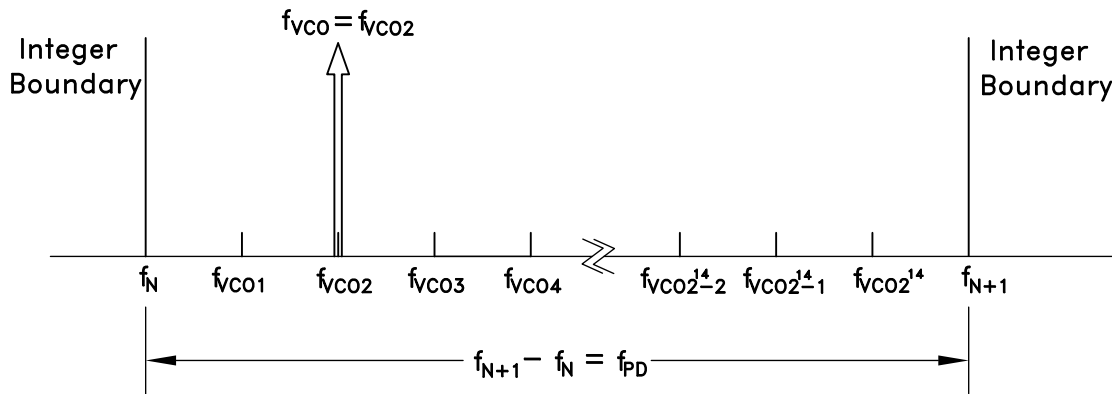

Figure 44. Exact Frequency Tuning
and  $f_{VCOk}$  are the channel step frequencies where  $0 < k < 2^{24}-1$ , As shown in Figure 44.
Some fractional PLLs are able to achieve this by adjusting (shortening) the length of the Phase Accumulator (the denominator or the modulus of the Delta-Sigma modulator) so that the Delta-Sigma modulator phase accumulator repeats at an exact period related to the interval frequency ( $f_{VCOk} - f_{VCO(k-1)}$ ) in Figure 44. Consequently, the shortened accumulator results in more frequent repeating patterns and as a result often leads to spurious emissions at multiples of the repeating pattern period, or at harmonic frequencies of  $f_{VCOk} - f_{VCO(k-1)}$ . For example, in some applications, these intervals might represent the spacing between radio channels, and the spurious would occur at multiples of the channel spacing.
If it is desirable to have multiple, equally spaced, exact frequency channels that fall within the same interval (ie.  $f_N \leq f_{VCOk} < f_{N+1}$ ) where  $f_{VCOk}$  is shown in Figure 44 and  $1 \leq k \leq 2^{14}$ , it is possible to maintain the same integer-N (Reg\\_03h) and exact frequency register (Reg\\_0Ch) settings and only update the fractional register (Reg\\_04h) setting. The Exact Frequency Channel Mode is possible if \(EQ 17\) is satisfied for at least two equally spaced adjacent frequency channels, i.e. the channel step size.
To configure the HMC834LP6GE for Exact Frequency Channel Mode, initially and only at the beginning, integer (Reg\\_03h) and exact frequency (Reg\\_0Ch) registers need to be programmed for the smallest  $f_{VCO}$  frequency ( $f_{VCO1}$  in Figure 44), as follows:
1. Calculate and program the integer register setting Reg\\_03h =  $N_{INT} = \text{floor}(f_{VCO1}/f_{PD})$ , where  $f_{VCO1}$  is shown in Figure 44 and corresponds to minimum channel VCO frequency. Then the lower integer boundary frequency is given by  $f_N = N_{INT} \cdot f_{PD}$ .
Reg04h =  $N_{FRAC} = \text{ceil}\left(\frac{2^{24}(f_{VCOk} - f_N)}{f_{PD}}\right)$  where  $f_N = \text{floor}(f_{VCO1}/f_{PD})$ , and  $f_{VCO1}$ , as shown in Figure 44, represents the smallest channel VCO frequency that is greater than  $f_N$ .
- To change from channel 1 ( $f_{VCO1} = 2800.2$  MHz) to channel 2 ( $f_{VCO2} = 2800.3$  MHz), only Reg 04h needs to be programmed, as long as all of the desired exact frequencies  $f_{VCOk}$  (Figure 44) fall between the same integer-N boundaries ( $f_N < f_{VCOk} < f_{N+1}$ ). In that case